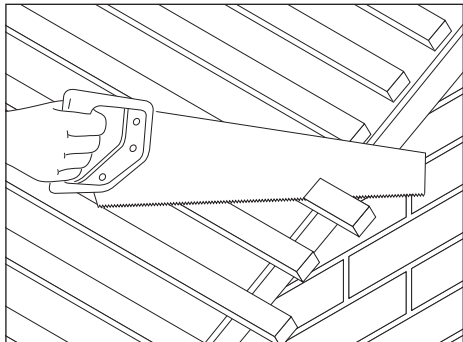

Fig. 6 – Saw battens flush
- 2 Where possible, set out tiling so that cloak verge tile fits flush with brickwork or bargeboard (Fig. 6).